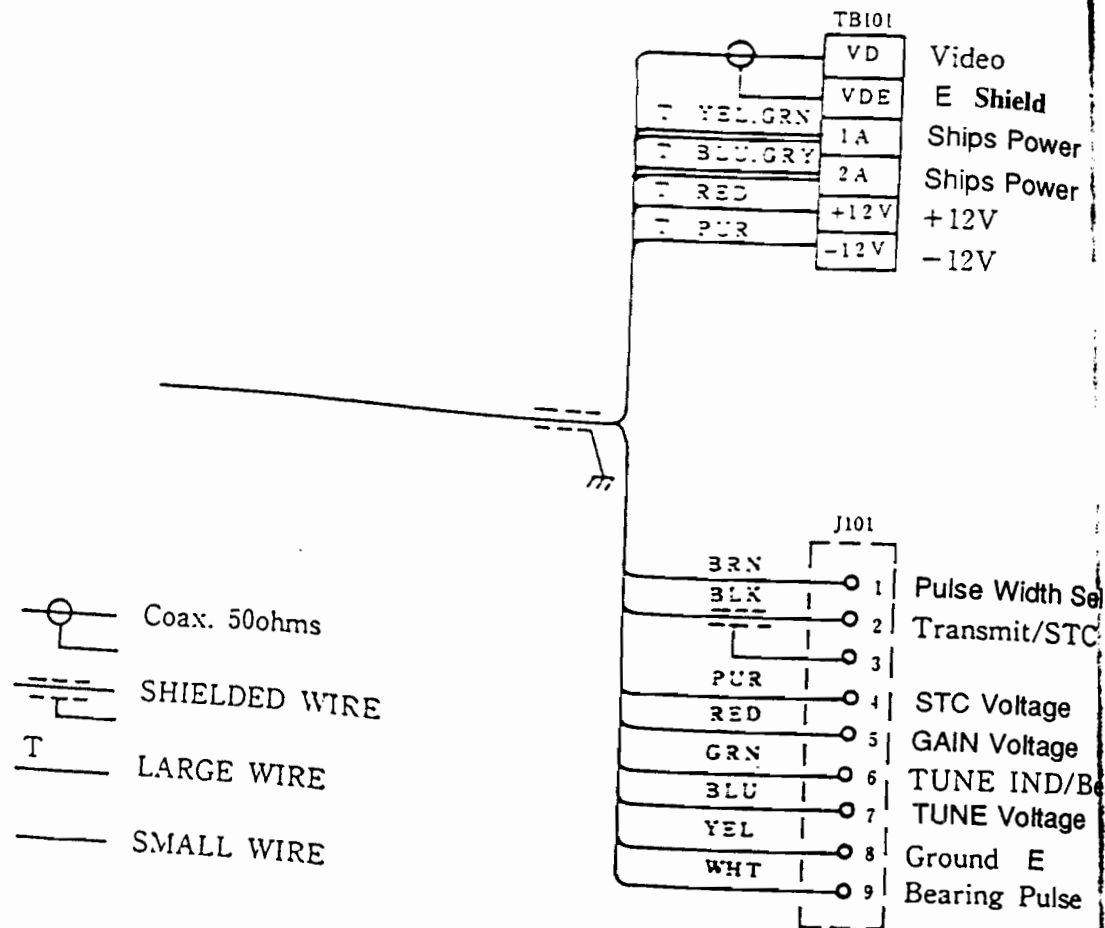

Fig. 2-15 WIRING DIAGRAM FOR XX SERIES OPEN ARRAY PEDESTAL UNIT
- 7) Following the wire colors in Fig. 2-15, attach the wires to TB101. After reinstalling the cable clamp to insure that the cable shield is grounded; pull the excess cable from the pedestal.